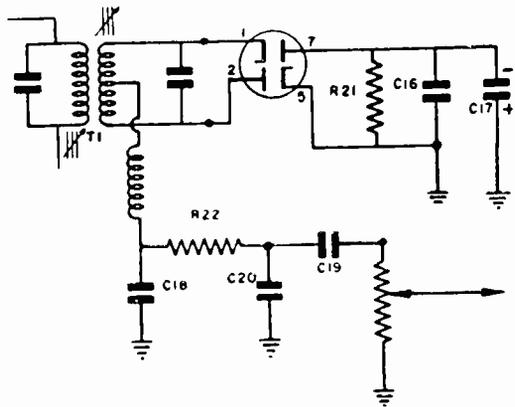

FIG. 13. Typical ratio-detector circuit used in an FM or TV receiver.
*The Ratio Detector:* As in the alignment of a limiter-discriminator circuit, two separate steps are necessary in aligning a ratio-detector circuit. The i-f amplifier stages must be aligned first, and the ratio-detector aligned separately. A typical ratio-detector circuit is shown in Fig. 13.
Either a high-resistance multimeter or a vacuum-tube voltmeter can be used in aligning a ratio-detector circuit—current measurements are not necessary. In the first step of aligning this circuit, the meter may be connected across the stabilizing condenser, C17 in Fig. 13, or across the rf by-pass in the audio output circuit, C20 in Fig. 13.
Connect two 100,000-ohm resistors in series and connect this network across the stabilizing condenser, C17 in Fig. 13.